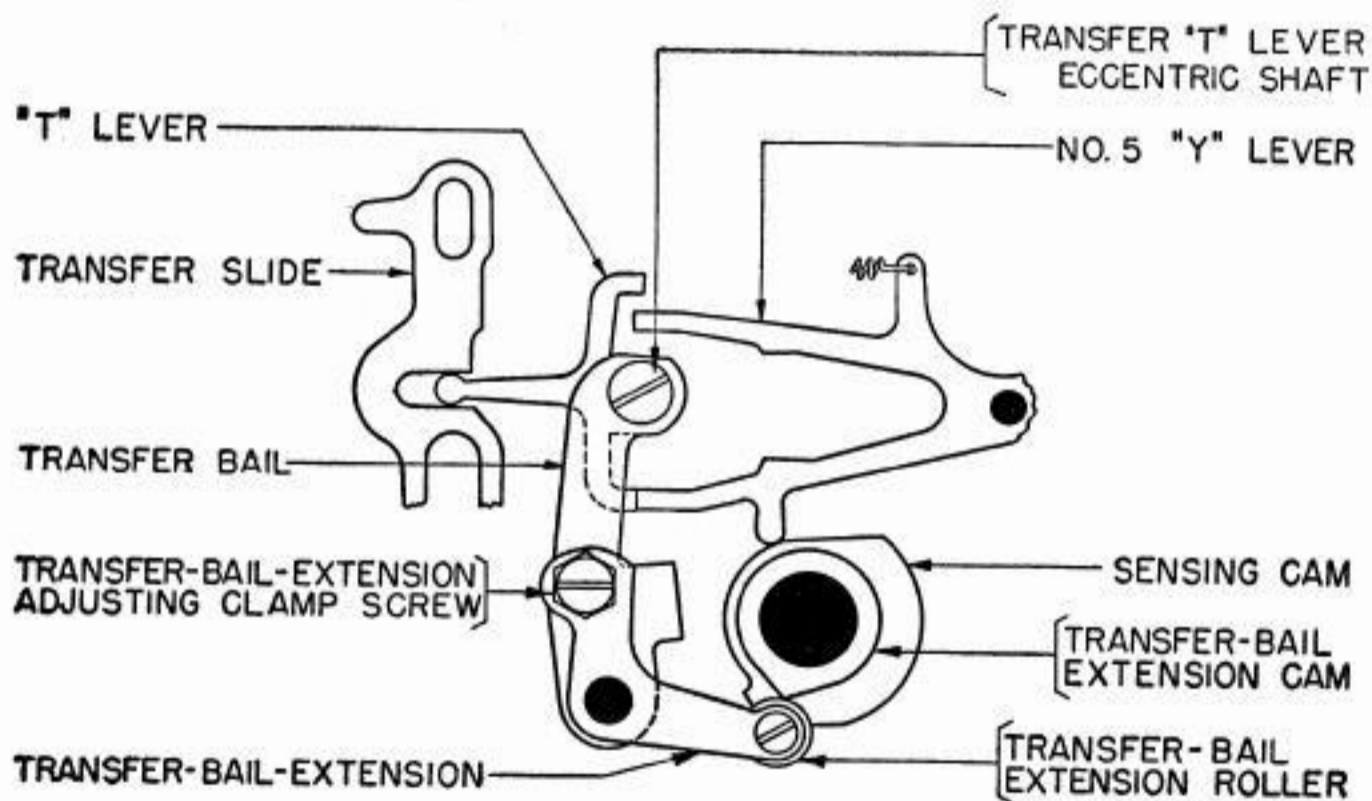

Fig. 60
Hold the roller against the cam and press the transfer bail to the right, manually, until the transfer slides move against their stops. **Do not jam.** Under this condition, at least one slide lever should be moved upward against its stop and at least one which is moved downward should also be against its stop. Tighten the transfer-bail-extension clamp screw. **Fig. 60**
- (1) To adjust, loosen the transfer-bail extension clamp screw and position the extension by means of its elongated hole. Tighten the screw. **Fig. 60**
(a) To gauge, rotate the sensing-contact levers out of the way and apply the push end of the scale to one of the spacers on the transfer T-lever-eccentric shaft and push horizontally to the right. **Fig. 60**